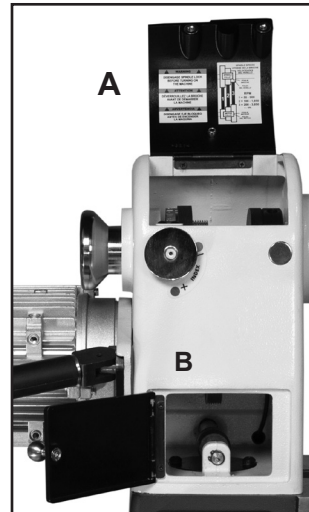

FIG. 40
2. Open the 2 Belt Doors to gain access to the belt and pulleys that are inside of the headstock. Figure 40, A & B.